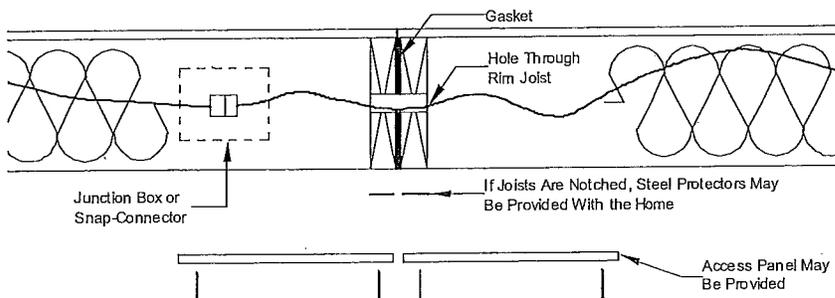

Figure 50. Electrical crossover floor wires with flush access panels
- Access wires.** Find the crossover location(s) and remove the access panel(s) if attached. If access panel openings are not provided, cut through bottom board to expose the wiring (Figure 50).